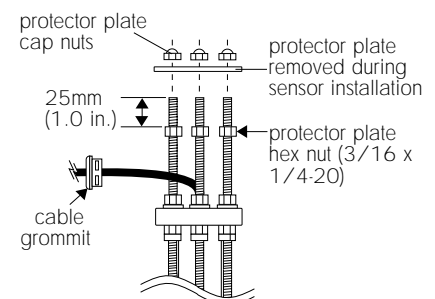

Fig. 12
F. Thread protector plate hex nuts onto each of the three threaded rods. Adjust each hex nut to a height of approximately 25 mm (1 in.) from the top of each rod. Remove the black plastic cable grommet in top of sensor with a screwdriver. Slide the grommet up the cable away from sensor. (Fig. 12)